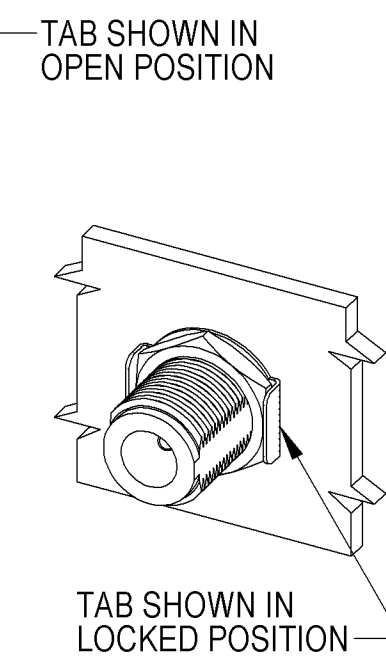

FIGURE 2
- INSERT LOCKWASHER, ITEM 12 AND NUT. FASTEN NUT TO A TORQUE VALUE OF 25 IN-LB. AFTER NUT TORQUE IS APPLIED, SEE THAT THE FLATS ARE ALIGNED VERTICALLY (FIG. 1). IF NOT, TURN THE NUT CLOCKWISE, UP TO 30° MAX. UNTIL THE FLATS ARE VERTICAL (FIG. 1). FOLD THE TABS OF ITEM 12 AS SHOWN IN FIGURE 2. CARE MUST BE GIVEN NOT TO SCRATCH OR MAR THE PAINTED/FINISHED SURFACE OF THE HOUSING.